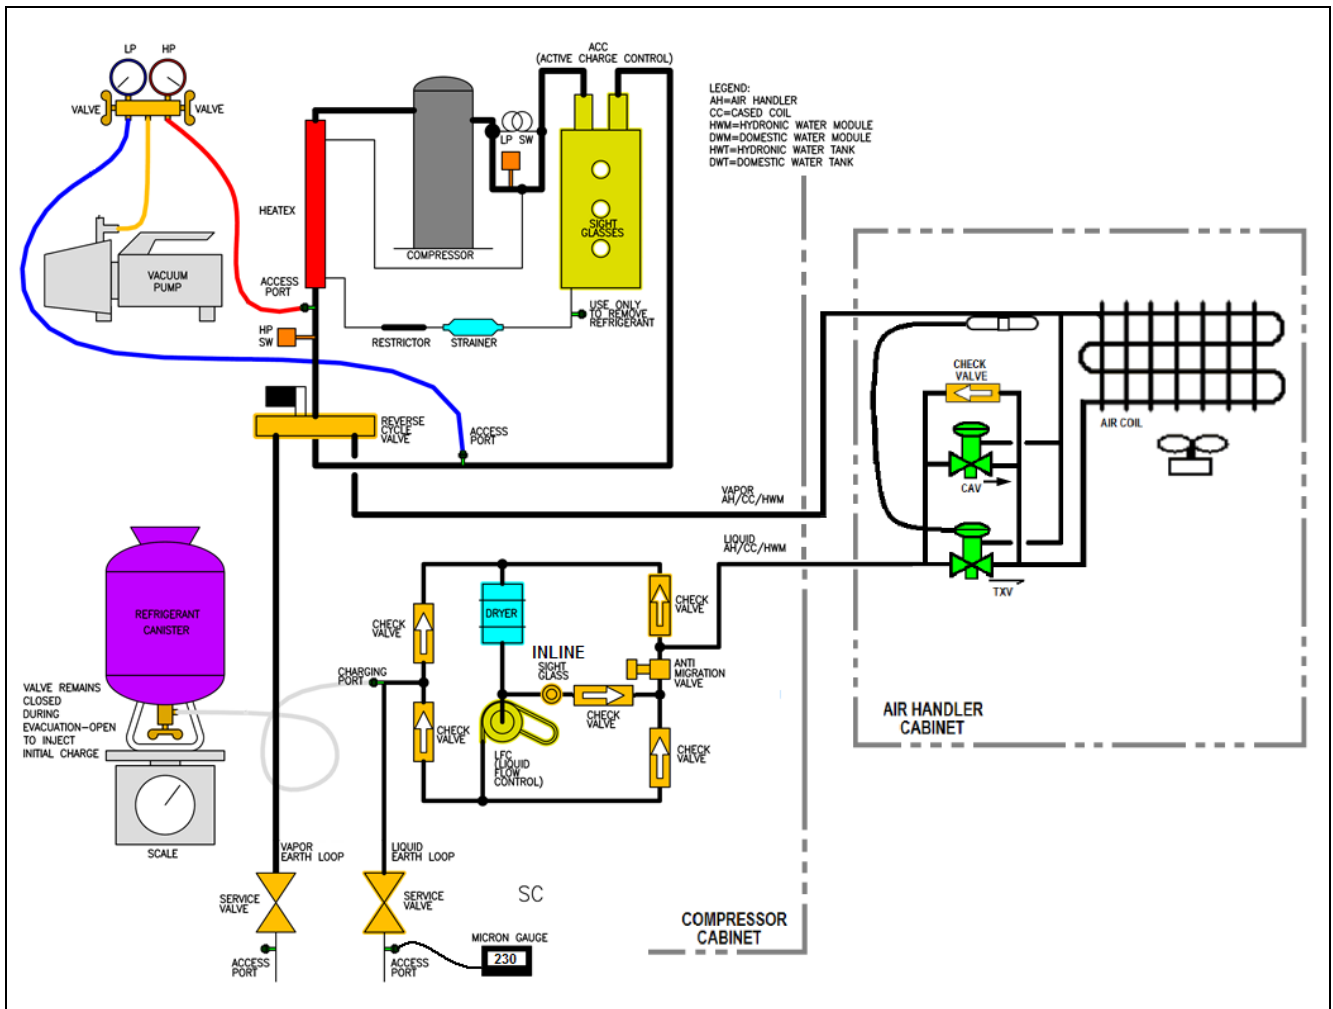

Figure 21. Typical Evacuation & Initial Charge Set-up for SC, SD, SCW and SW Compressor Models (SC model shown).
Refer to Figure 21 and the following description:
3. After venting the pressurized system, connect the Gage Block, Refrigerant Container and Hoses as shown in Figure 21. LP and HP valves are fully open. Both Service Valves are fully opened.
4. As illustrated in Figure 21, connect a good quality Digital Micron Gage to the Liquid Line Service Valve Access Port with an Isolation Hose/Valve. Connect a quality Vacuum Pump (at least 6 CFM capacity) to the Gage Block.
8. Open the refrigerant container valve and **inject liquid refrigerant into the charging port** as shown in Figure 21.